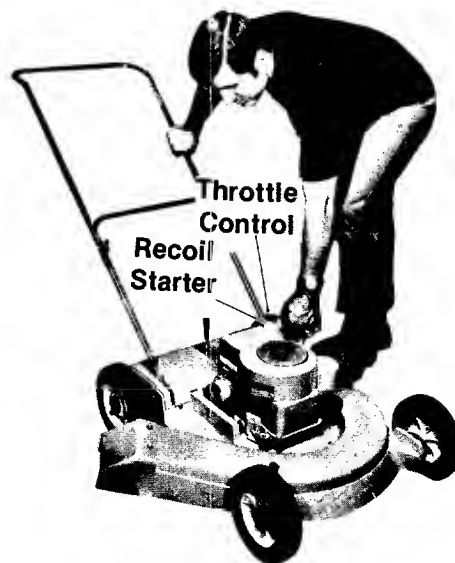

FIGURE 2.
1. Place the throttle control in "START" position. See figure 2.